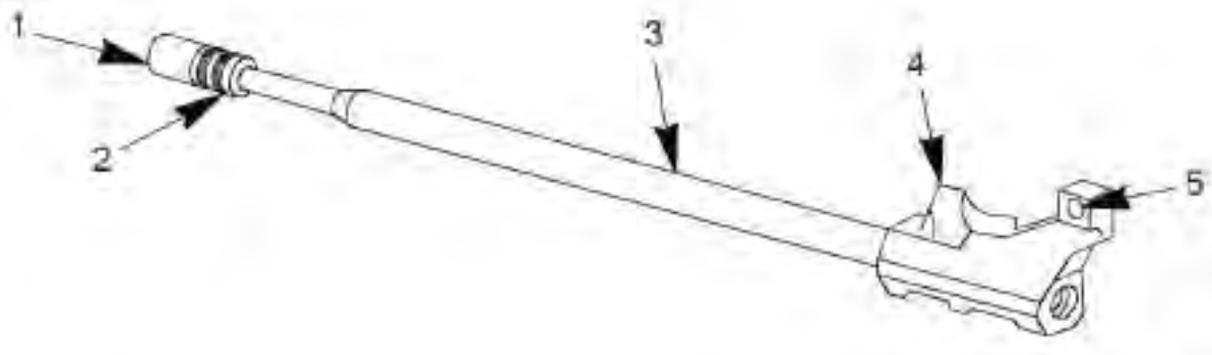

Figure 1. Piston Assembly, Gun Gas Cylinder.
1. Visually inspect piston assembly (Figure 1) for bends, breaks, burrs or cracks. Visually inspect hole (Figure 1, Item 5) for cracks. Inspect the tower portion (Figure 1, Item 4) and tube portion (Figure 1, Item 3). Visually inspect piston for missing spring pins (Figure 1, Item 2).
2. If any parts are damaged or missing, or if looseness exist between tower portion (Figure 1, Item 4) and tube portion (Figure 1, Item 3) , replace piston assembly (Figure 1).